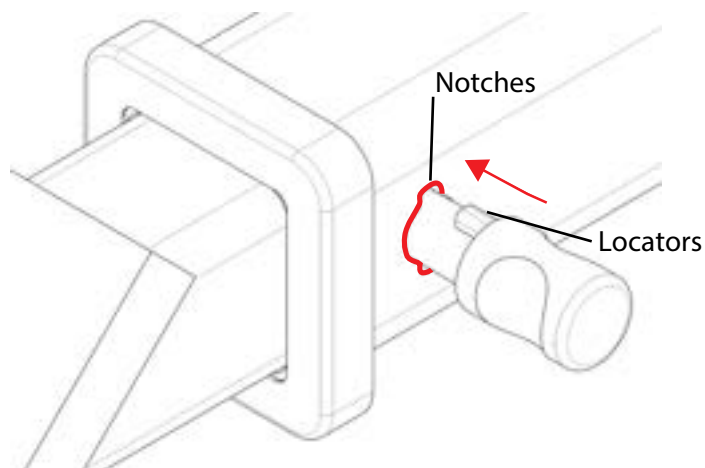

Fig 3. Silent Anti-Rattle Hitch Pin orientation
STEP 2 Insert HITCH PIN through hole in HITCHBOX and hole in TBM SHANK; ensure the LOCATORS are inserted into the NOTCHES in the HITCHBOX (Fig. 3).